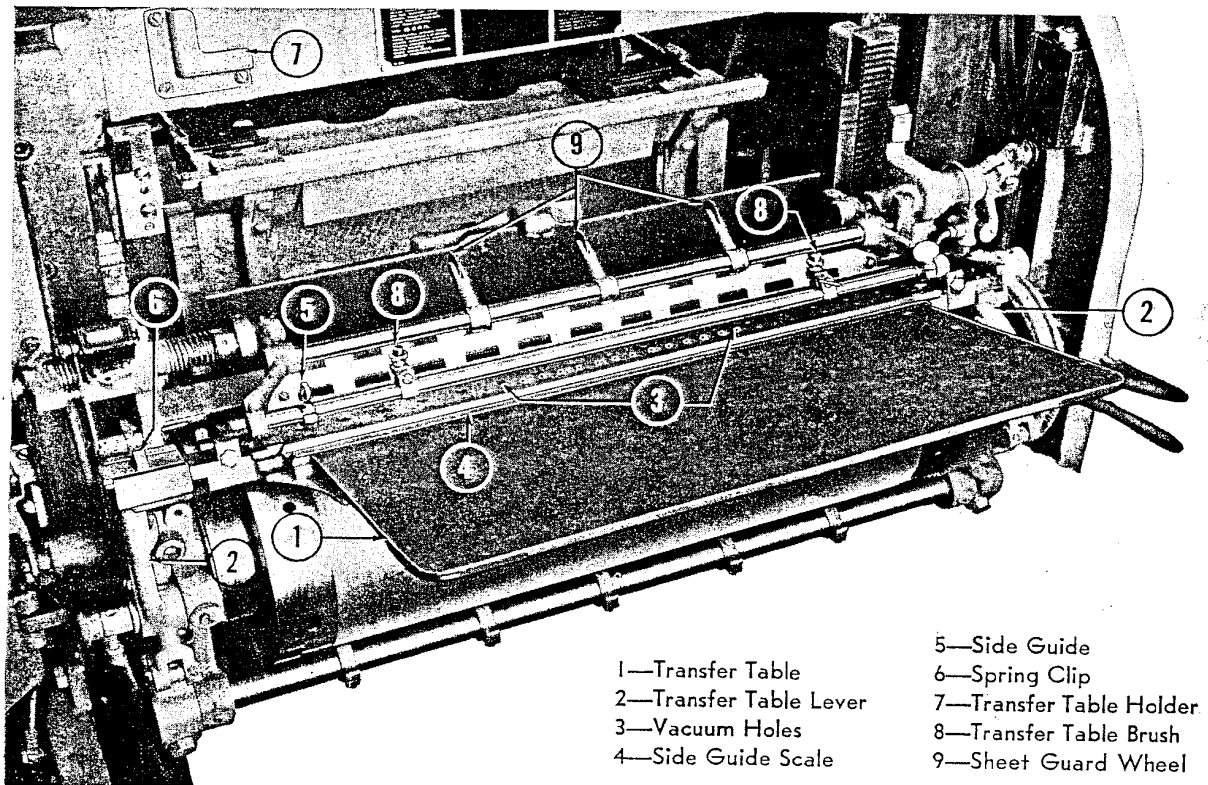

Figure 4—Transfer Table and Side Guide
(See figure 4.)—The transfer table (1), supported by two levers (2) attached to the cylinder journal cap, receives a sheet from the feeder separator shoes and transfers it to the impression cylinder. During the travel of the transfer table toward the cylinder, the sheet is held on the table by means of suction applied through a series of holes (3) in the table. A